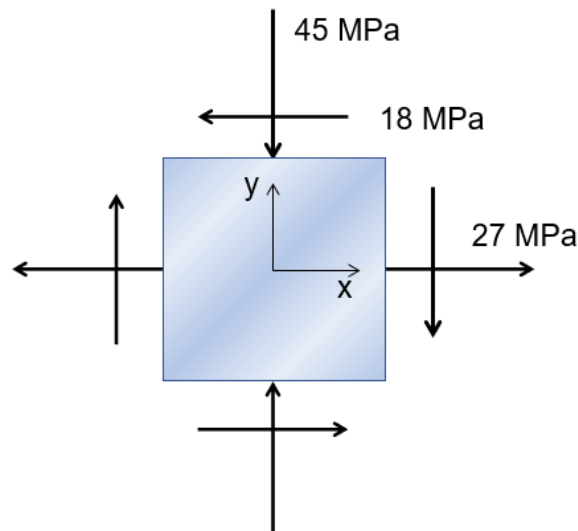

Figure 4a.5 – Stress state on an element
Consider the state of stress on an element as given below (shown in Figure 4a.5).
- Determine the principal axes (calculate the angle between the x-axis shown in Figure 4a.5 and the principal axes).